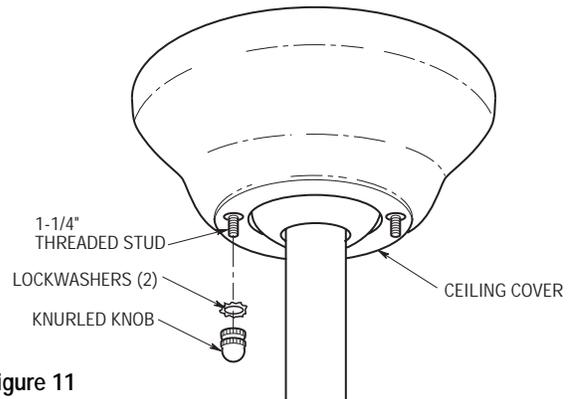

Figure 11
- 3. Lift the ceiling cover up to the threaded studs and turn until studs protrude through the holes in the ceiling cover (Figure 11).
- 4. Secure the ceiling cover in place by sliding lockwashers over the threaded studs and installing the two knurled knobs (supplied). (Figure 11.) Tighten the knurled knobs securely until the ceiling cover fits snugly against the ceiling and the hole in the ceiling cover is clear of the downrod. Your fan is now wired to be turned on and off from the fan switch.